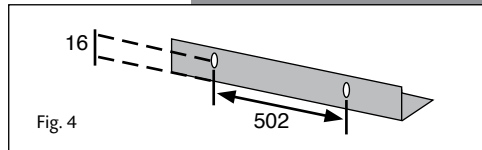

Fig. 4
4. Should the cupboards not be considered strong enough, angle frame L (Fig. 4) can be used as an additional support on the rear wall. Recheck positioning of hood, screw angle frame L to wall, replace hood and secure to wall.